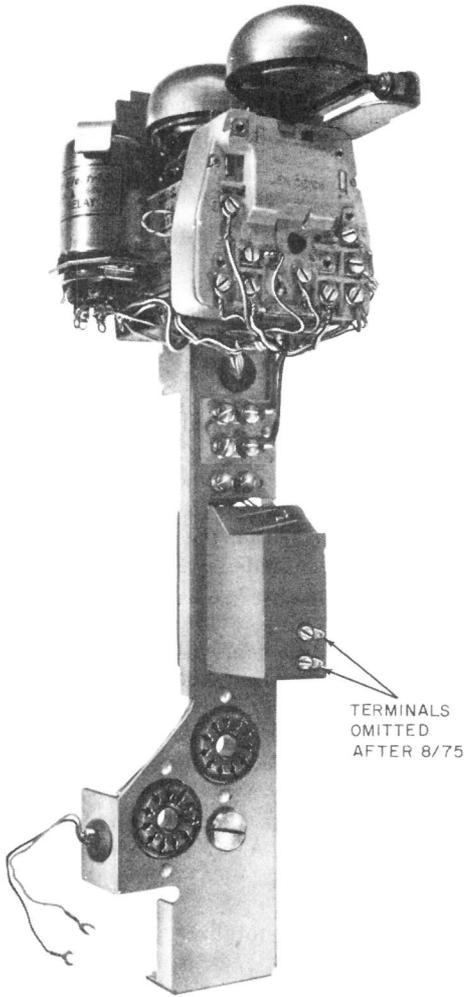

Fig. 13—840693634 Coin Chassis—For Use in 1A/2A-Type Sets
3.18 The 811554377 (P-15E437) single frequency (SF) coin chassis used in 1A/2A-type sets, can be replaced with an 840693634 dual frequency (DF) coin chassis (Fig. 13).